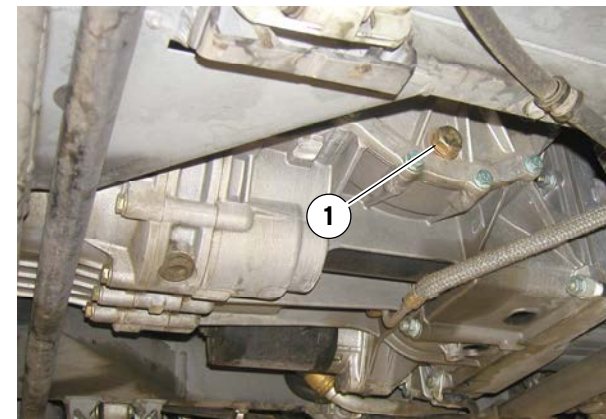

Fig. 1 Plug for checking the level of the transmission and rear differential oil
- Clean the plug (1, Fig. 1) and reassemble it; tighten to **45 Nm**.
- Using a funnel and rubber hose, top up using a moderate amount of oil at a time until the oil starts to come out of the oil checking hole (**1**, Fig 1).